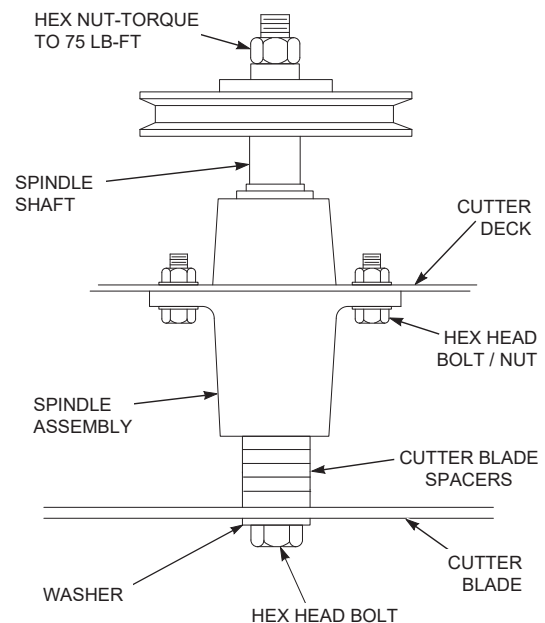

Figure 7-5. Blade Replacement
3. Secure the cutter blades to prevent them from rotating, (use the optional Blade Buddy tool P/N 9212, to assist in securing the cutter blades), remove the blade attaching bolt. Remove the cutter blade, bolt, lockwasher and flatwasher from the spindle shaft. See Figure 7-5.
4. Install the cutter blade on to the cutter spindle shaft. Secure the blades from rotating and torque to 75 ft/lbs. See Figure 7-5.